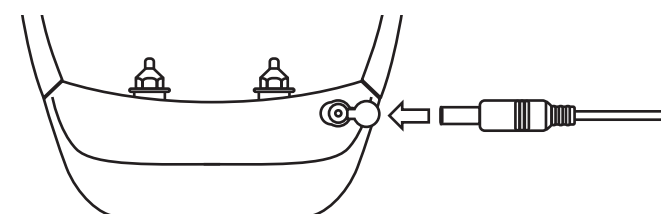

figure 1 – Receiver Collar Charging Interface
3. Connect one of the AC Charging Adapter connectors (either connector will work) into the Receiver Collar Charging Interface (figure 1) for 6 to 8 hours (on the first use of the product, charge the Receiver Collar for 12 to 14 hours).